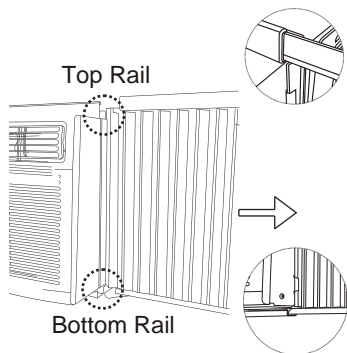

Fig.3
C. Once the panel has been installed on the side of the cabinet, make sure it sits securely inside the frame channel by making slight adjustments. Slide the top and bottom ends of the frame into the top and bottom rails of the cabinet. Fig.3.